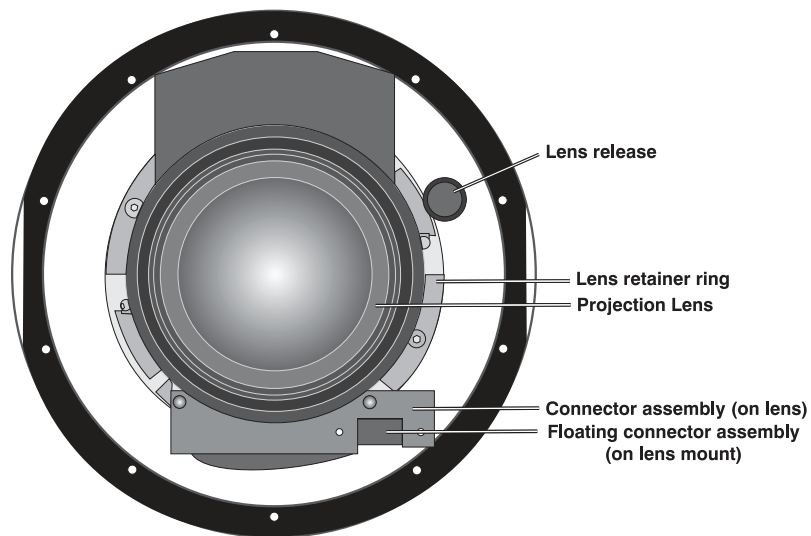

Figure 3-7. Lens Assembly (Front View)
4. Slide the new lens into the lens opening of the projector. Make sure to align the connector on the side of the lens with the connector assembly on the lens retaining ring; see Figure 3-7.